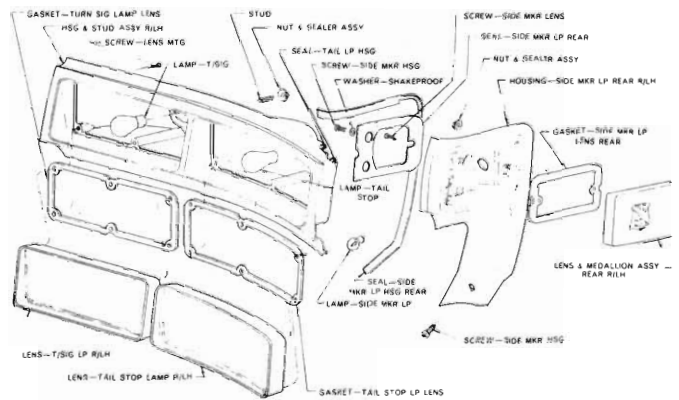

Fig. 15 - Chrysler tail-stop, back-up and turn signal, and side marker lamp assembly (disassembled view)
(1) From inside luggage compartment remove the partition board and remove the six nuts attaching the lamp assembly to the lower deck panel.
(2) Remove the eight retaining nuts holding the applique to the lower deck panel.
(3) Loosen the bumper bar attaching bolts (both sides) to enable sufficient clearance for removal of lamp assembly from deck panel.
(4) Having removed the lamp assembly from the deck panel, the tail-stop lens can be removed by removing the six screws attaching the lens to the lamp assembly. The side marker lens can now be removed by removing the two lens attaching screws to the housing (refer Fig. 15).